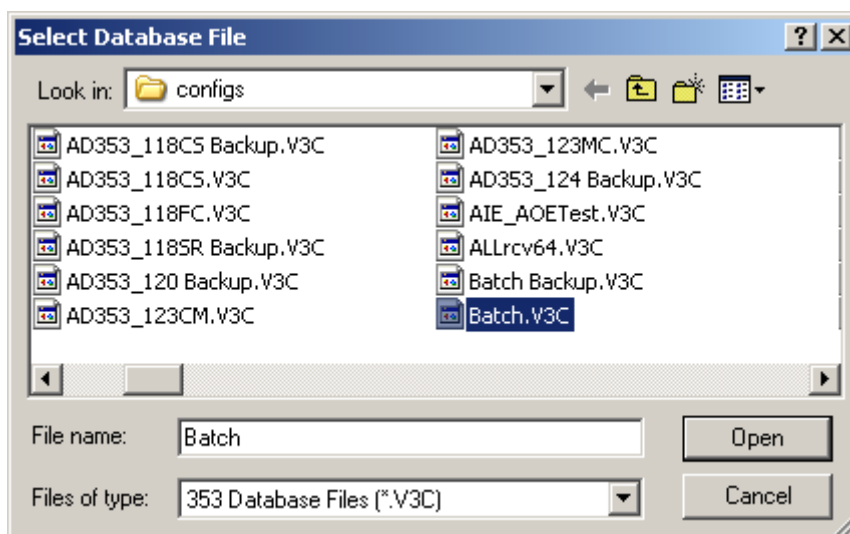

Figure 5-9 Select Database File dialog
2. The Select Database dialog is displayed. See Figure 5-9.